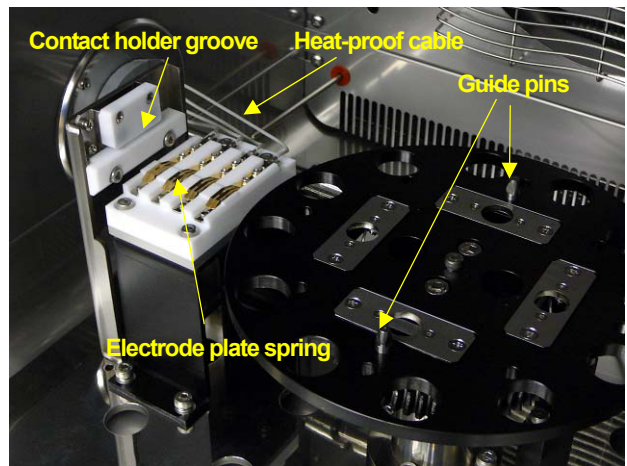

Fig.3-6 Installation of turn table
**Note:** Sufficient care should be taken **not to touch the heat-proof cable and not to throw at the electrode plate spring** when installing it (See Fig. 3-6.).